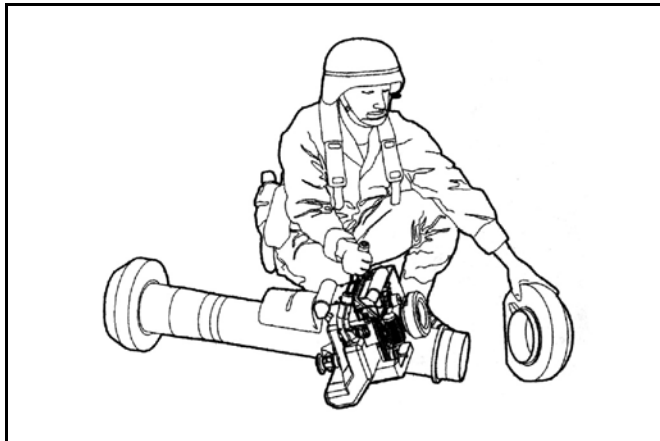

Figure 2-34. Replace forward end cap.
(1) Grasp the handgrip with the right hand and lift the forward end of the round off the top of the forward end cap (Figure 2-34).
(2) Check to ensure the forward end cap latch is in the open position.